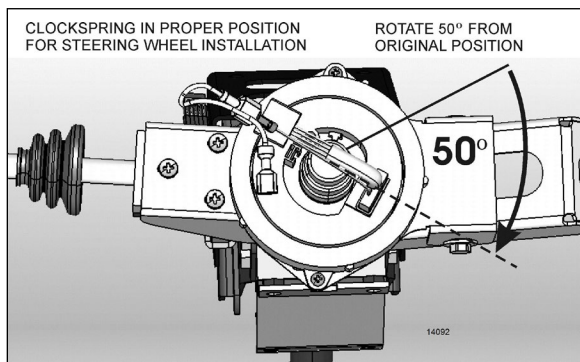

FIGURE 51: PROPER CLOCKSPRING POSITION
5. Break the paper seal and rotate the center part of the clockspring about 50° clockwise (Figure 51). This step is necessary for the installation of the steering wheel.